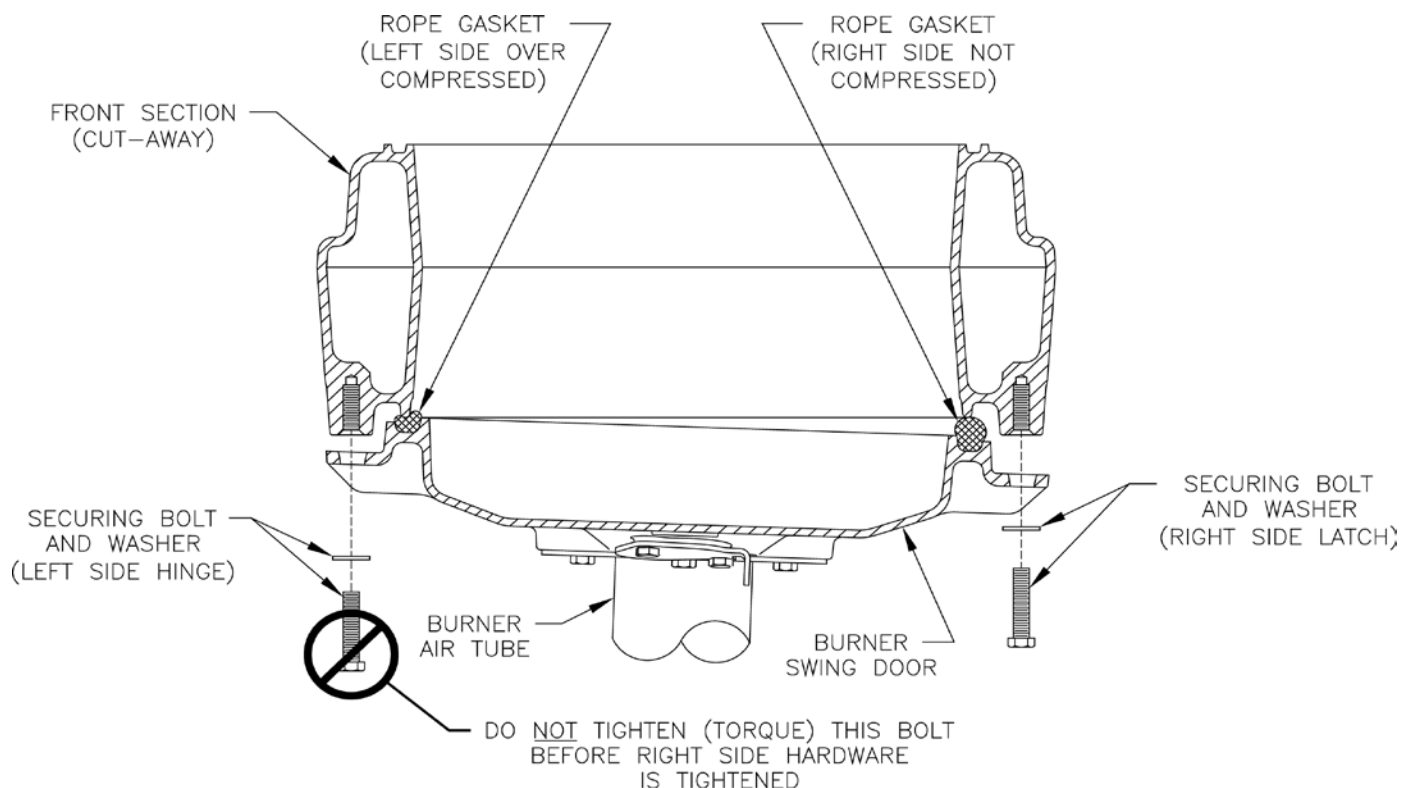

Figure 5C: Top View - Burner Swing Door Fully Closed but Not Properly Secured or Sealed
- e. Failure to follow the prescribed procedure could cause thread damage to casting and /or leak at the door seal. IF LEFT SIDE TAP BOLT IS TIGHTENED BEFORE RIGHT SIDE TAP BOLT, RIGHT SIDE OF THE DOOR CAN NOT BE DRAWN-IN TO PROVIDE AN AIR-TIGHT SEAL, as shown in Figure 5C. Applying excessive torque will only cause thread damage.